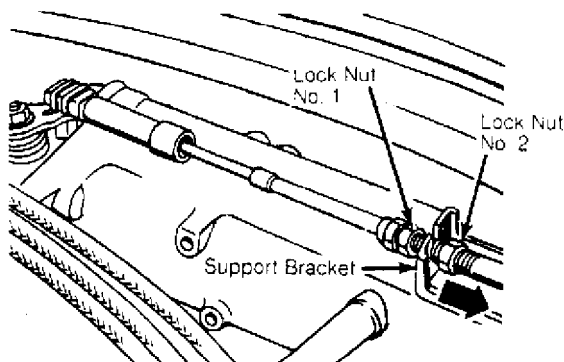

Fig. 4: Adjusting Throttle Cable (Except Vanagon)
2) Loosen lock nuts on throttle cable support bracket. Push throttle cable sleeve in direction of arrow until there is no play. See Fig. 4.